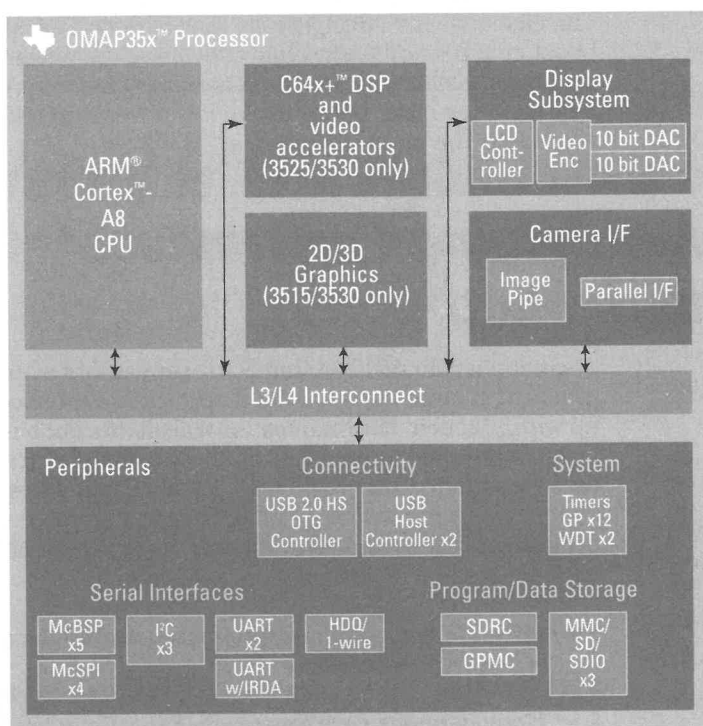

Figure 1-1: OMAP processors use a heterogeneous design approach.
- ✓ **Heterogeneous core approach.** The principle of the heterogeneous methodology is for silicon architects to place two or more different cores on the same chip. Huh? Why would you make things any more complicated than they already are on a chip with hundreds of millions of transistors? The reasons are very similar to the gasoline/electric combination in a hybrid car. The two motors are tuned to be most efficient at different tasks and can even be combined to produce a killer combination. Figure 1-1 shows a Texas Instruments OMAP core that utilizes a heterogeneous design approach. One core serves as the GPP while another is the DSP.